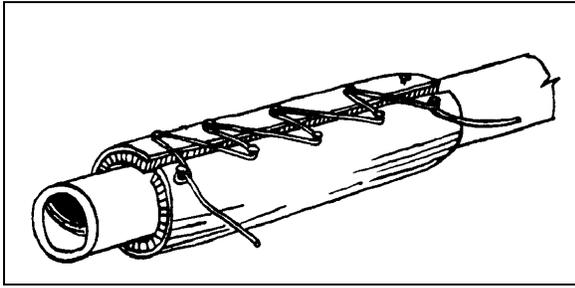

FIGURE 5: LACING WIRE INSTALLATION
2. Form and compress blanket always working towards seams. Use temporary ties to position and hold blanket for forming, then shoelace for length of blanket using wire #509754 (fig. 5 shows typical installation). Perform a single loose wrap on each capstan. Align the small hole provided in the blanket with the exhaust port fitted on the exhaust pipe.
3. Form and compress blanket always working towards seams. Use temporary ties to position and hold blanket for forming, then shoelace for length of blanket using lacing wire #509754 (see figure 5 showing typical installation). Perform a single loose wrap on each capstan. Align the small hole provided in the blanket with the exhaust port fitted on the exhaust pipe.